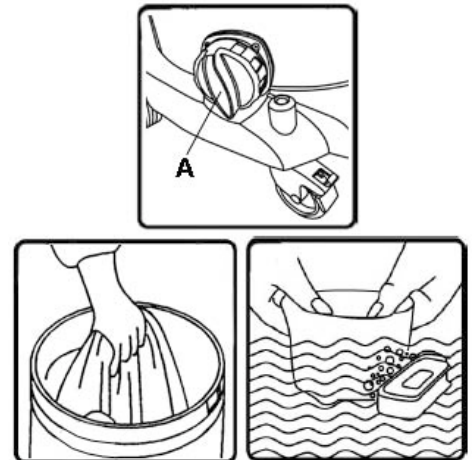

Figure 14
- 2) Remove the cover/motor assembly and lay it aside, being careful not to damage the filter and empty the tank contents into a suitable waste disposal container by removing the drain cap (A) Fig.14 found on the lower left side of the tank.